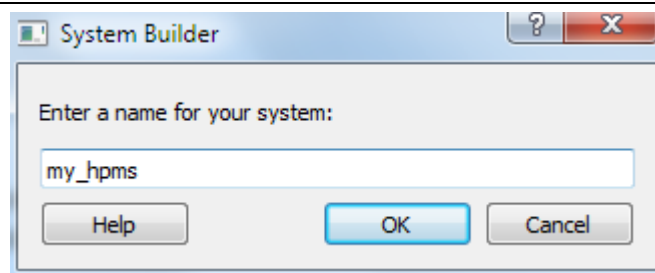

Figure 4 System Builder Name Dialog Box
5. Enter **my_hpms** as the name of the system in the **System Builder** dialog box, as shown in Figure 4.